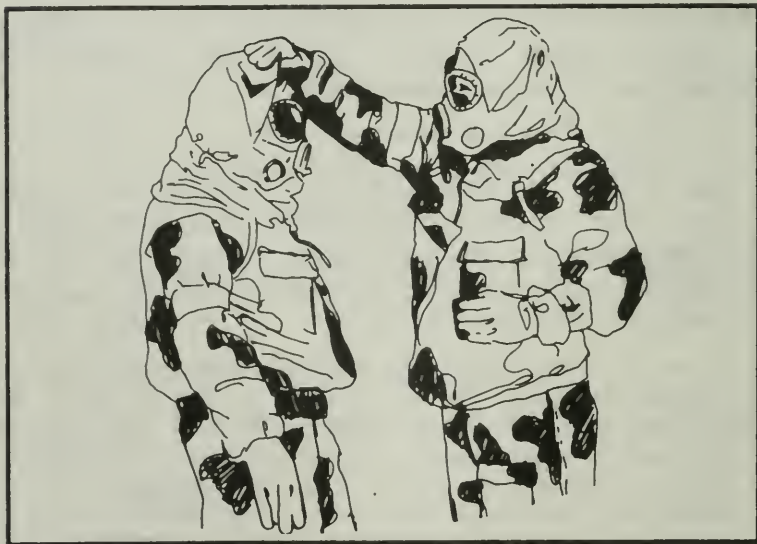

Figure 286. Decontaminating the hood.
a. Decontaminate the hood (Figure 286): The buddy loosens the soldier's draw cord and removes the under-arm straps from under the soldier's arms. The buddy moves the straps over the shoulders and reattaches to the velcro patches on the bottom of the hood.